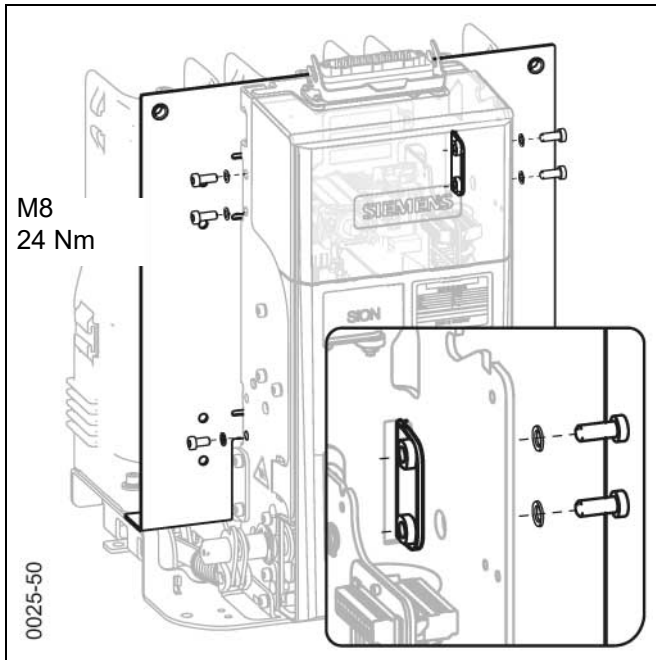

Fig. 63 Mount a continuous protective plate between the pole and operating mechanism housing (optional)
- Fig. 63: Guide continuous protective plate (62) between pole shell and operating mechanism housing and mount on the operating mechanism housing.